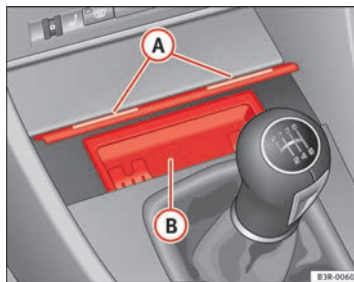

Fig. 132 Centre console: Open ashtray
- Lightly press the front part of the ashtray (A) ⇒ Fig. 132. ▶
- Take hold of the sides of the ashtray (B) ⇒ Fig. 132 and lift it out.